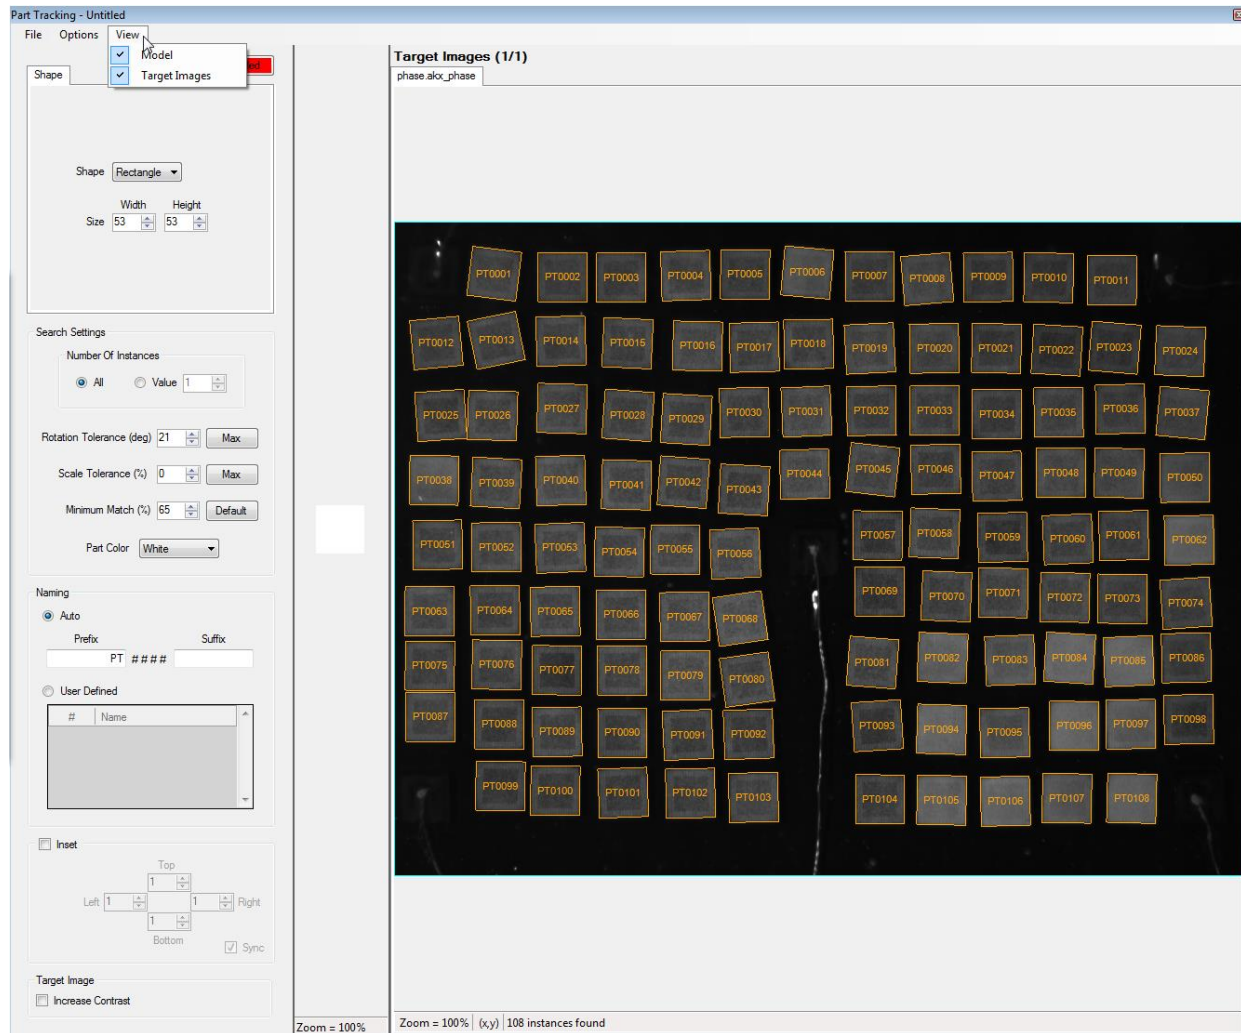

Figure 2.41 Part Tracking window with Target Image
- **View** – Allows the user to show or hide the Model and Target Images display. See the result with both being shown in **Figure 2.41**.